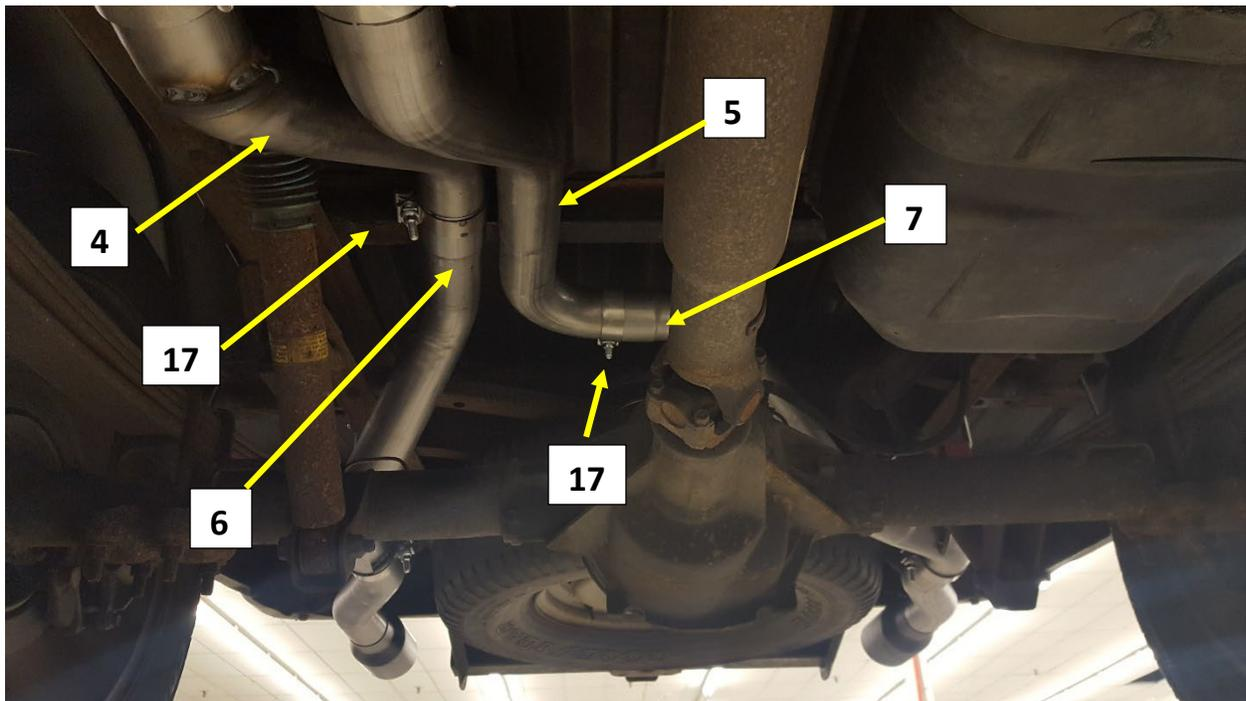

Figure.12
13. Install a 3" band clamp (17) on to each of the right (6) and left (7) tail pipe expanded ends. **Fig.12**
14. Install the right tail pipe (6) expanded end on to the right muffler outlet pipe (4) over the axel. Insert the tail pipe hanger rod into the red hanger at the rear frame hanger. Tighten the clamp to allow for adjustment. **Fig.12**
15. Install the left tail pipe (7) on to the left muffler outlet pipe (5) directly over the differential. Insert the tail pipe hanger rod into the red hanger at the rear frame hanger. Tighten the clamp to allow for adjustment. Adjust the tail pipe for approximately 3/8" clearance at the left shock if the vehicle is on a 2-post lift with the wheels at full extension. Adjust for 1" clearance if the tires are on the ground or 4 post lift and the vehicle is at ride height. **Fig.12**